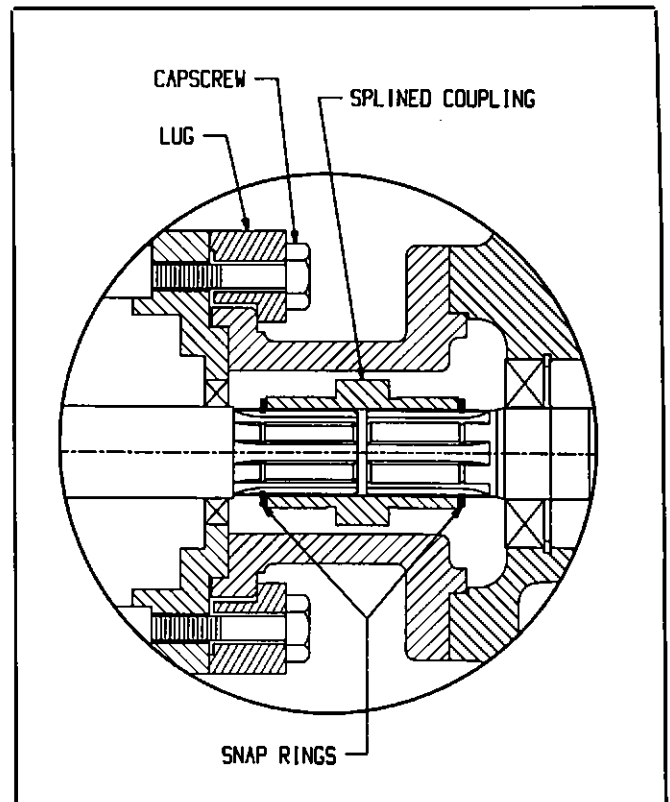

FIGURE 7
1. On pumps equipped with Integral Reducer Units, (See Figure 7) the reducer can be removed by removing the four lugs which hold the reducer and mounting bracket to the drive end of the pump. Set reducer aside.
(Refer to Figure 7)